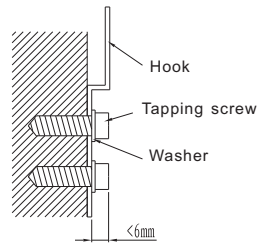

Fig 12
- Fix the hook with tapping screw onto the wall (Refer to Fig 12)